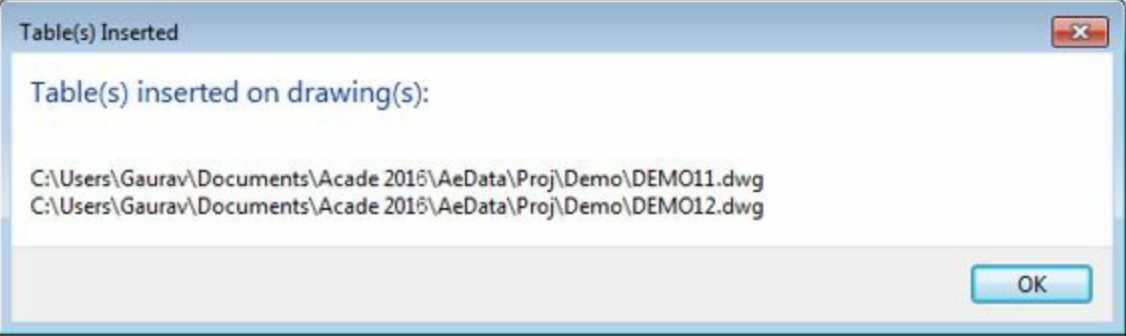

Figure-34. Tables Inserted dialog box
- Click on the **OK** button from the **Terminal Strip Table Generator** dialog box. The **Table(s) Inserted** dialog box will be displayed; refer to Figure-34.